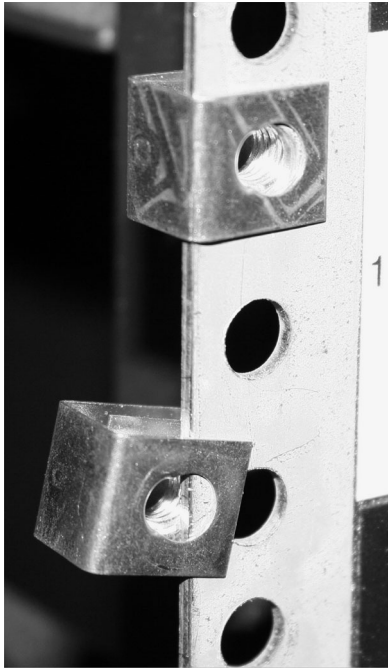

Figure 5. Positioning the clips
2. Position the four “C” clips in the rack’s mounting bar, as shown in Figure 5 on page 14.